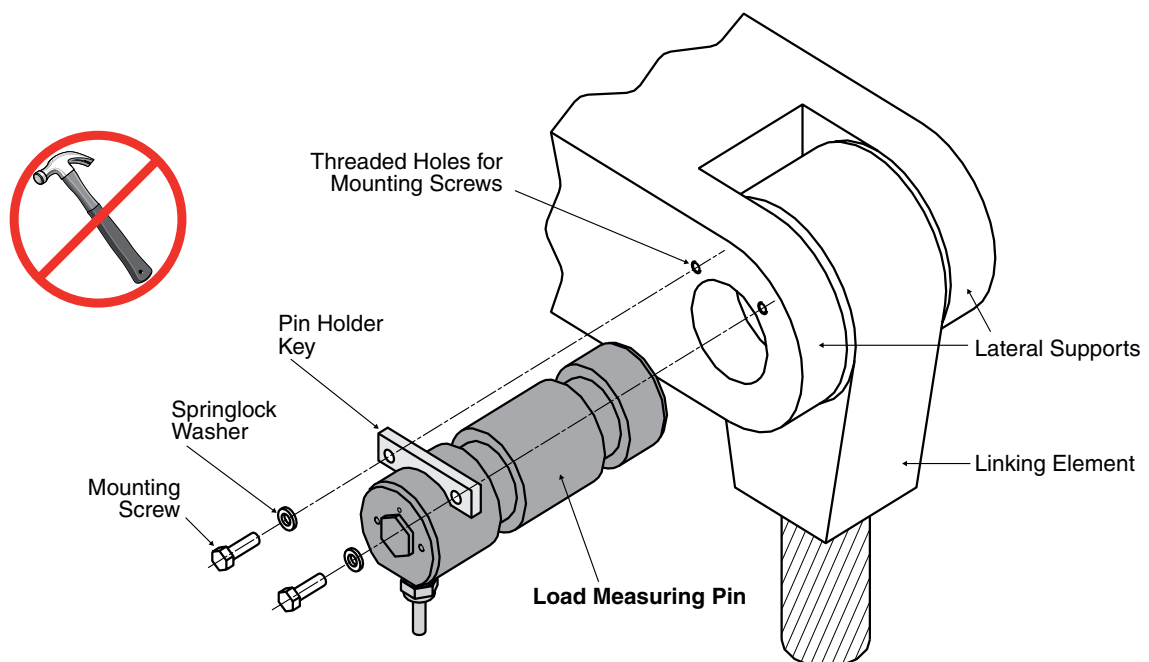

Fig. 2-4. Positioning of the load measuring pin
Position the load measuring pin facing the bores in which it will be seated (see Fig. 2-4). Turn it so that the mortise for receiving the pin holder key is facing upward and perpendicular to the applied force.
3. Manually slide the load measuring pin into its seat (*see Fig. 2-4*), until the mortise for receiving the pin holder key reaches the lateral support. This inserting of the load measuring pin should be done without the use of any tool. If it is impossible to slide the pin in, check the alignment (concentricity and axuality) of the elements and machine again, if necessary.
5. Place the two fastening screws, fitted with their washers, into the holes of the pin holder key (*see Fig. 2-4*), and screw them into the previously threaded holes, applying the screwing torque specified in table (*see Fig. 2-3*).